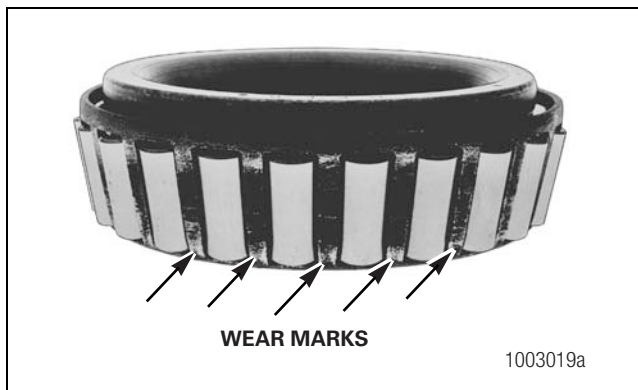

Figure 4.4
- There are bright wear marks on the outer surface of the roller cage. Figure 4.4.